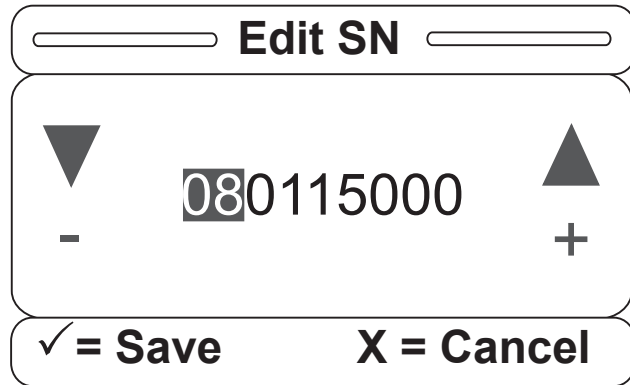

Figure S-25
25. If the Edit SN item is selected, the screen in Figure S-25 will be displayed to the user.
27. Once the up/down lock button is pressed, the highlighted sections will change as indicated in Figures S-25, S-26, S-27 and S-28. Hold down "Enter" on the footboard panel for two seconds to save the serial number or press "Exit" to cancel the operation.